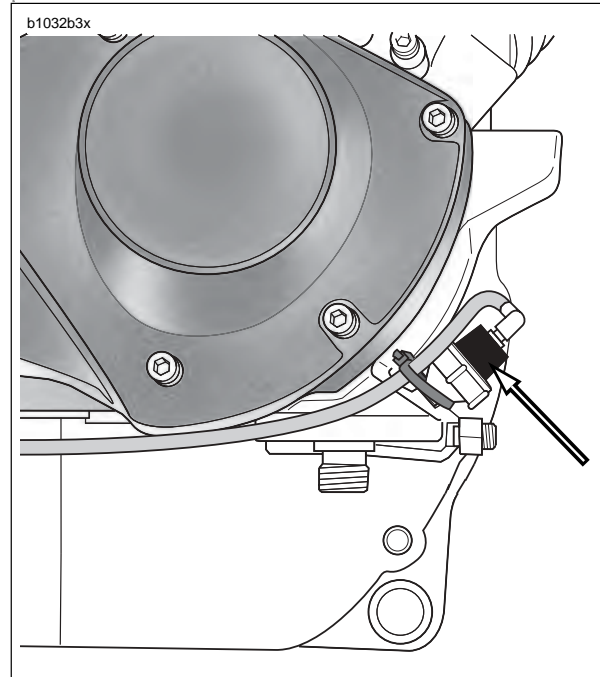

Figure 3-112. Oil Pressure Indicator Switch
See Figure 3-112. The oil pump is non regulatory and delivers its entire volume of oil under pressure to the oil filter mount. When an engine is cold, the engine oil will be more viscous (i.e., thicker).
2. See Figure 3-112. Unplug connector (2) from oil pressure indicator lamp switch (1) located on top of the oil filter mount (3). Remove oil pressure switch by using OIL PRESSURE SENDING UNIT WRENCH, unscrew and remove oil pressure switch from crankcase.